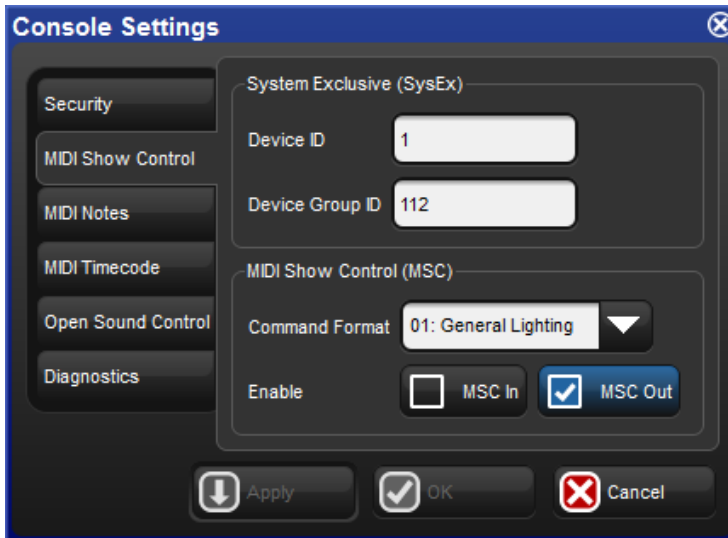

Figure 20.1. The MIDI pane of the Console Settings window
5. Settings : open the Settings window; see *Figure 20.1, "The MIDI pane of the Console Settings window"*.